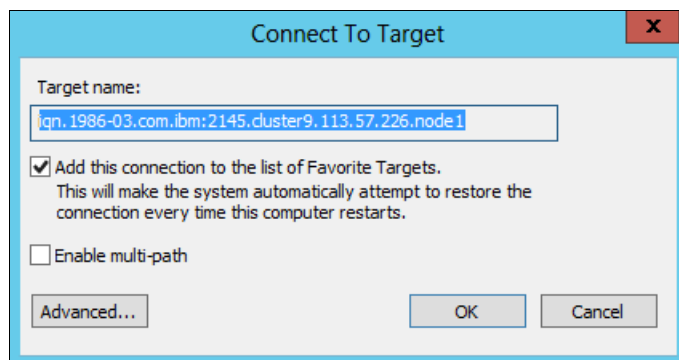

Figure 7-25 Connect to Target
6. To connect to the targets, select each target and click **Connect**. A new window opens, as shown in Figure 7-25.